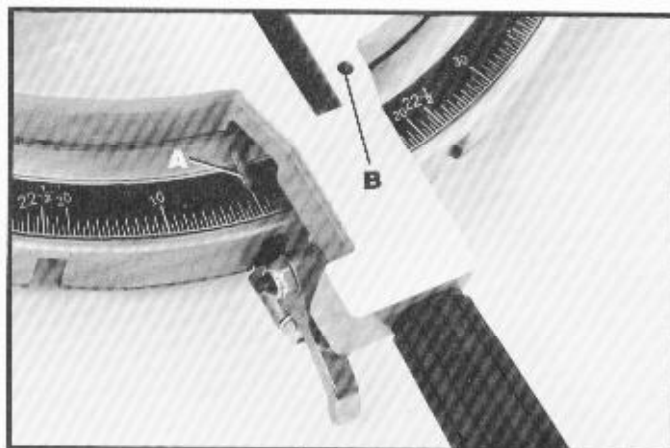

Fig. 30
If it becomes necessary to adjust the pointer (A) Fig. 30, simply loosen set screw (B), adjust the pointer accordingly, and tighten set screw (B).